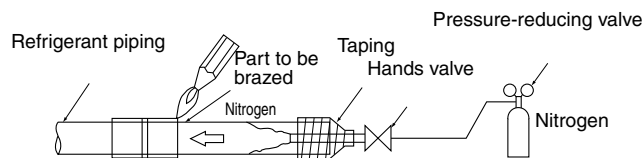

Fig. 17
- Nitrogen should be set to 2.9psi with a pressure-reducing valve if brazing while inserting nitrogen into the piping. (**Refer to Fig. 17**)